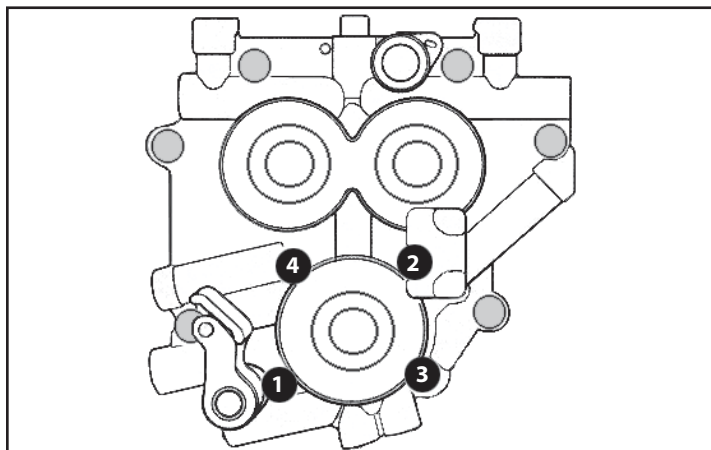

Figure 1
9. Gradually loosen and remove four oil pump bolts according to sequence shown in **Figure 1, next page**.
- d. Tighten bolts to 90-120 in-lbs. in sequence illustrated in **Figure 1 on page 5.**